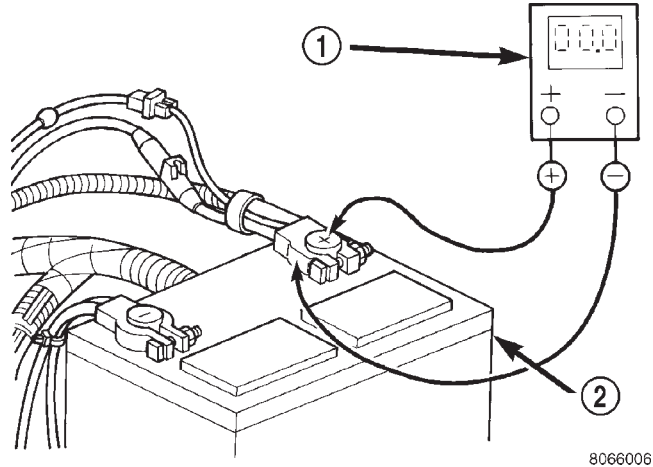

Fig. 5 Test Battery Positive Connection Resistance - Typical
(2) Connect the positive lead of the voltmeter to the battery positive terminal post. Connect the negative lead of the voltmeter to the battery positive cable terminal clamp (Fig. 5). Rotate and hold the ignition switch in the Start position. Observe the voltmeter. If voltage is detected, correct the poor connection between the battery positive cable terminal clamp and the battery positive terminal post.